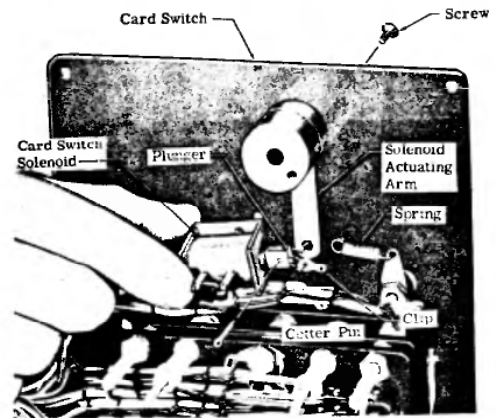

Figure 19 - Replacing Card Switch Solenoid
2. Insert two .125 inch diameter (1/8 inch diameter) pins or drill shanks into the switch plate holes A-1 and L-1 to retain the code card. (See figure 19).
plate holes when the micro switch actuates (an audible CLICK will be heard). If adjustment is necessary, turn the adjustment screw. (See figure 19) until alignment is correct.
6. 26 Replacement of CardSwitch Solenoid. (See Figure 19). Unsolder leads to terminals on solenoid. Disengage spring from clip on plunger and remove cotter pin and clip. Remove screws from face of panel and disengage solenoid from solenoid actuating arm. Install new solenoid and reconnect associated parts in the reverse order of removal.